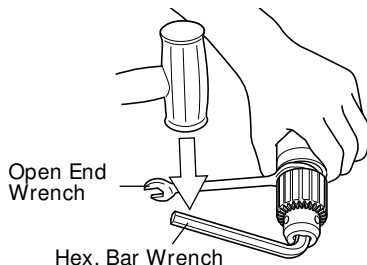

Fig. 12
(4) Removing chuck from angle unit (Fig. 12)